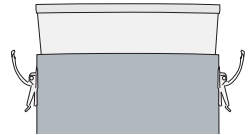

figure 10
4. Remove filter and empty (**figure 10**).